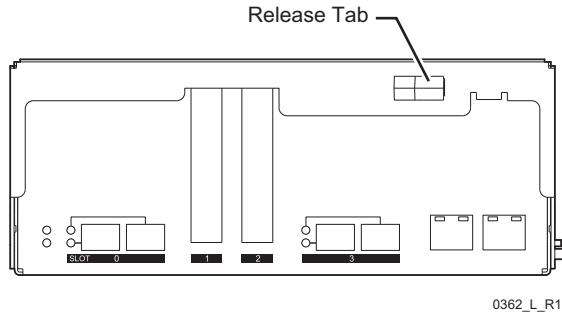

Figure 9-2. Controller Node Release Tab
- 3 Push the release tab of the controller node lever to the left (Figure 9-2).